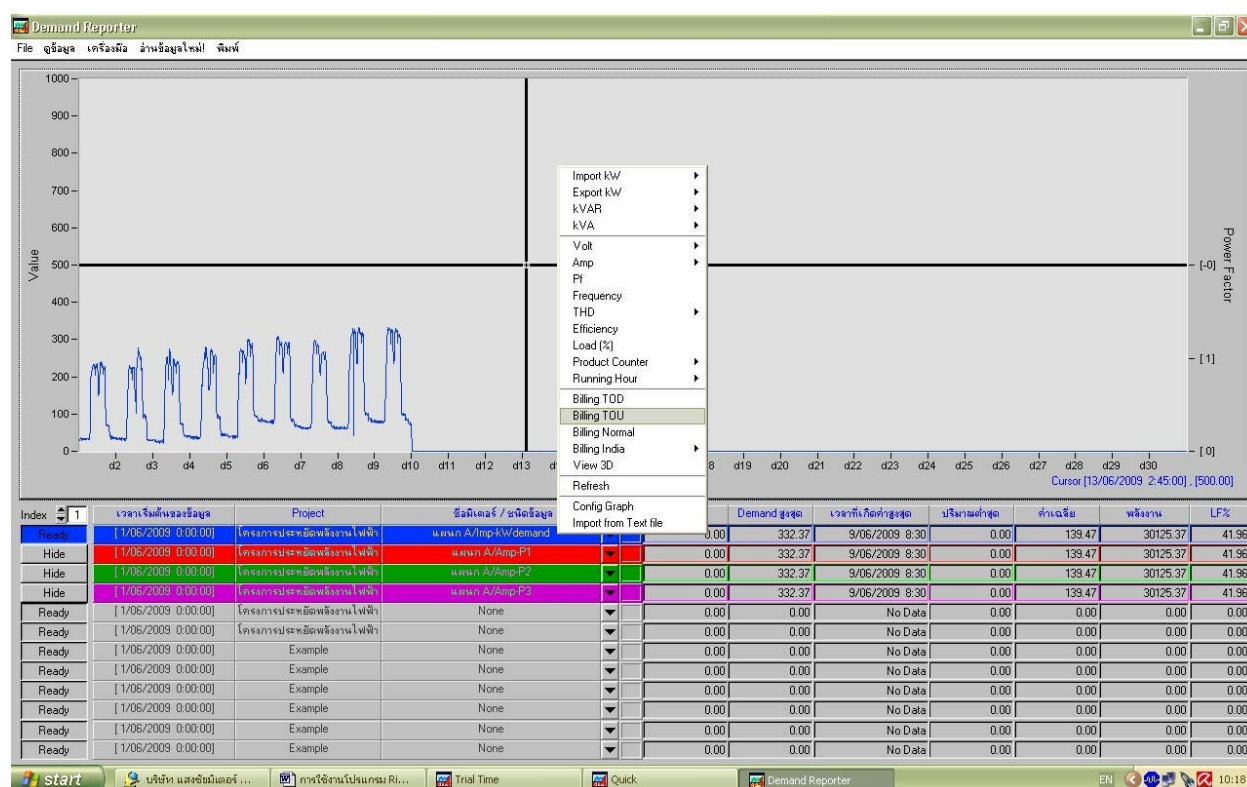
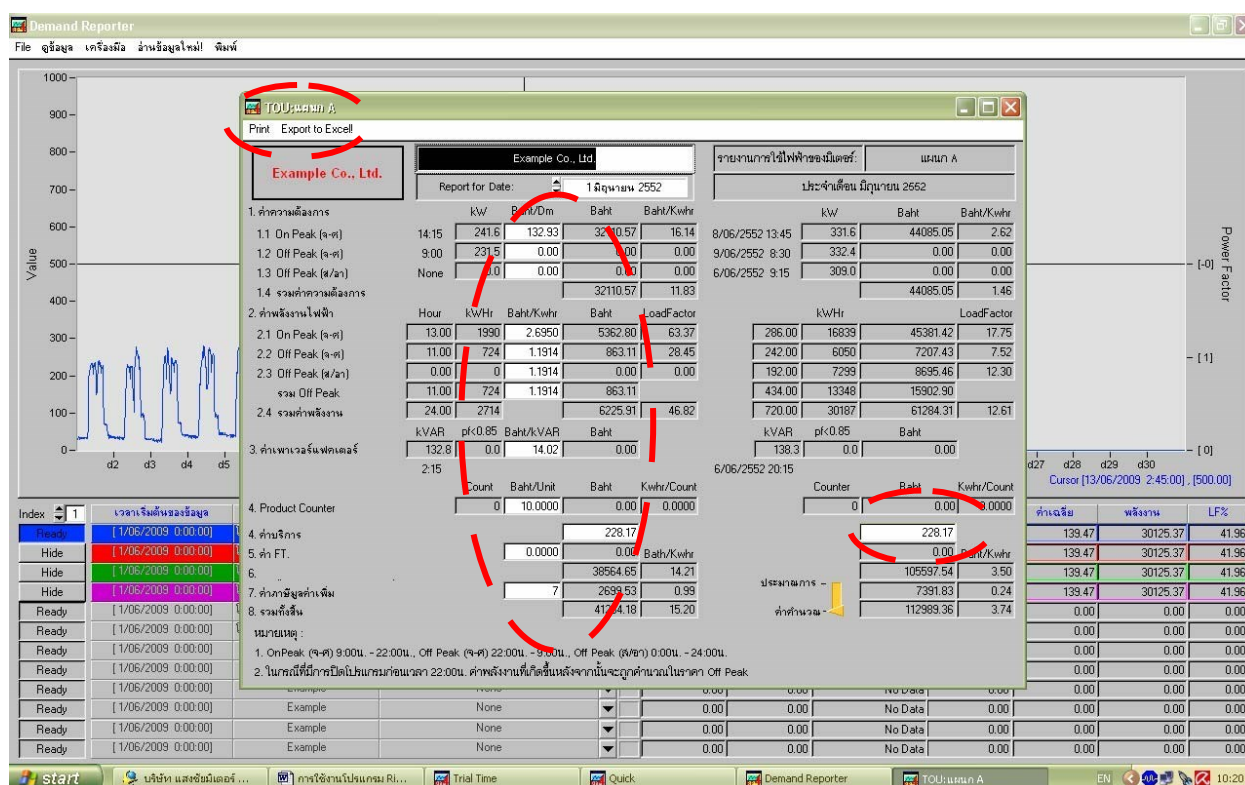

Figure 22
Figure 23
3. Right-click the name we chose meter. Select from the Billing Normal,Billing, Billing TOU ,Billing TOD) By Type of electric charges we use is based on Figure 22 electric bill, it will show up as shown in Figure 23.